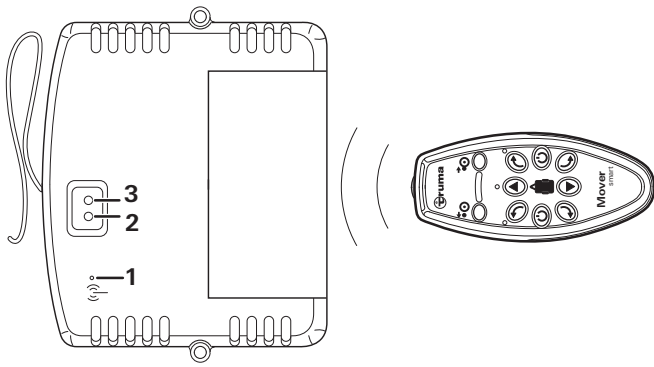

Figure 12
- Press the reset button (Figure 12 - 1) on the remote control with a thin object. The antenna of the control unit can be used for this.
The green (Figure 12 - 2) and red LEDs (Figure 12 - 3) on the remote control now flash alternately.